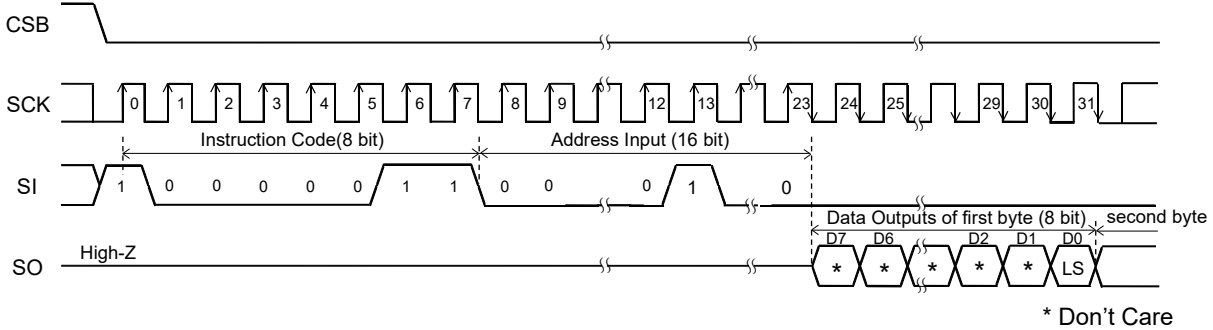
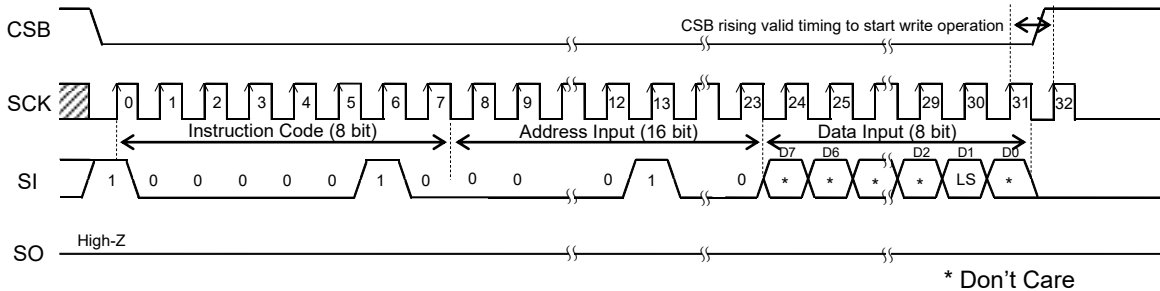

Figure 49. Read Lock Status Command
Figure 50. Lock ID Page Command
*(Note 20)* Refer to Figure 49 and Figure 50